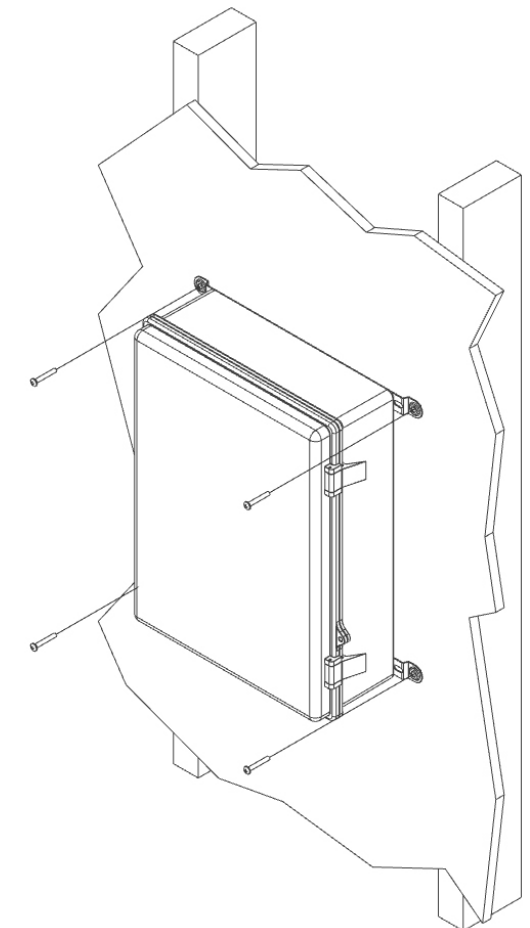

Figure 4
Step 5 – Place the enclosure on the wall where it is to be installed (it is recommended that you mount directly to a stud). Mark the screw locations (note: there are several screw holes located in the back of the enclosure that are intended to be used for mounting purposes). Use a minimum of two (2) #10 x 2" or larger screws to secure the enclosure in place. However, if there is no stud at the mounting location, it is recommended that you use a minimum of 4 drywall anchors to secure the enclosure in place (Figure 4).